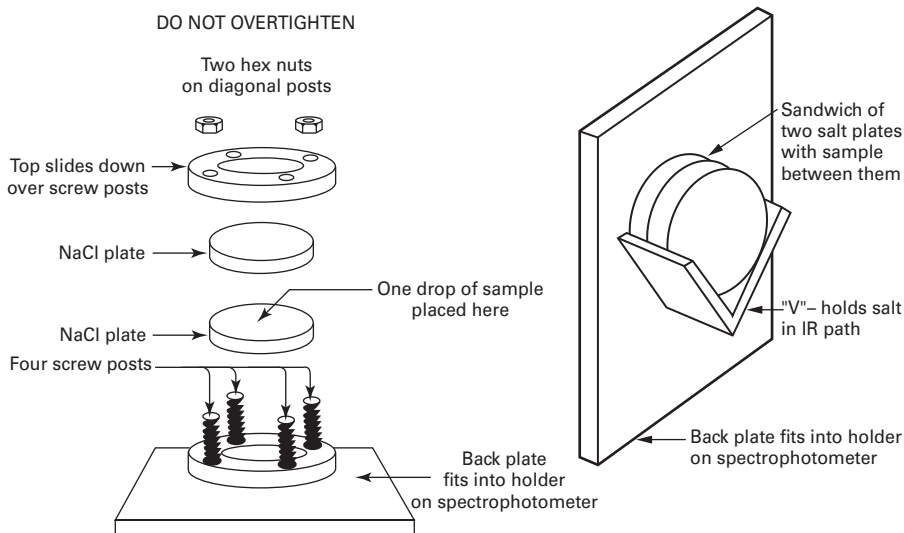
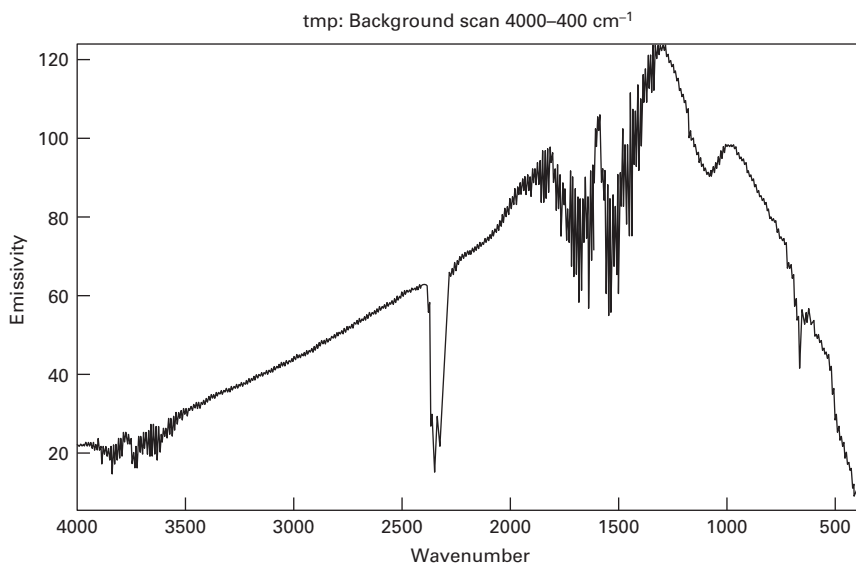

FIGURE 32.11 IR salt plates and holders.
FIGURE 32.16 FTIR background spectrum. Note H_2O and CO_2 bands.
2. Put some of the *dry* sample (1–2 drops) on one plate, then cover it with another plate (Fig. 32.11). The sample should spread out to cover the entire plate. You *don't have to press*. If it doesn't cover well, try turning the top plate to spread the sample, or add more sample.
1. ***FTIR is a single-beam instrument.*** So you must collect a background spectrum (Fig. 32.16) before you do your sample. The computer program will subtract the background from the background and sample and produce the usual IR spectrum. What's in a background spectrum? Everything that's not the sample. For a salt plate spectrum (Fig. 32.11), clean salt plates in the holder are the background. And for a solution-cell spectrum, the cell with pure solvent is the background. Why? For many cells and holder combinations, the aperture is smaller, or the salt plates absorb a bit, or the solvent absorbs a lot, and these must be compensated for.